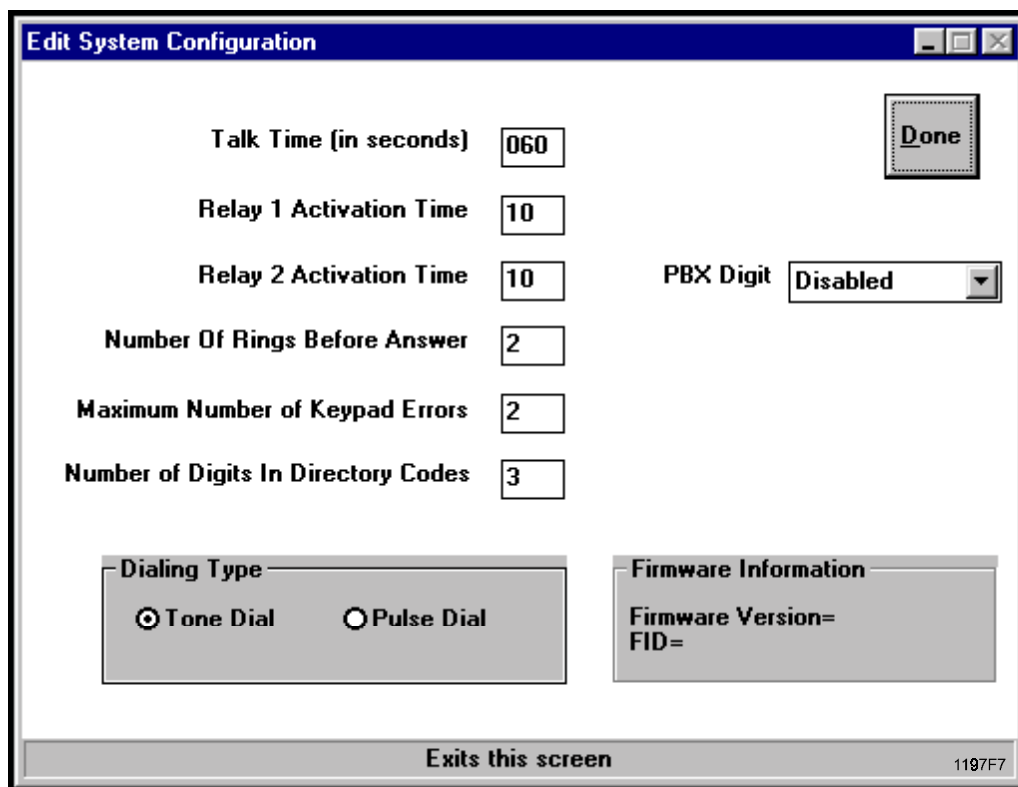

Figure 14. Edit System Configuration Screen
In the Add/Edit panel, click on the Configuration button. The Edit System Configuration screen displays with the factory settings (figure 14).
If you add or upgrade a unit, you may want to change the directory code length. The Edit System Configuration screen (figure 14) will show the current number of digits allowed for a directory code.
2. Bring up Edit System Configuration Screen (figure 14). See Part 5 Edit Unit Configuration.